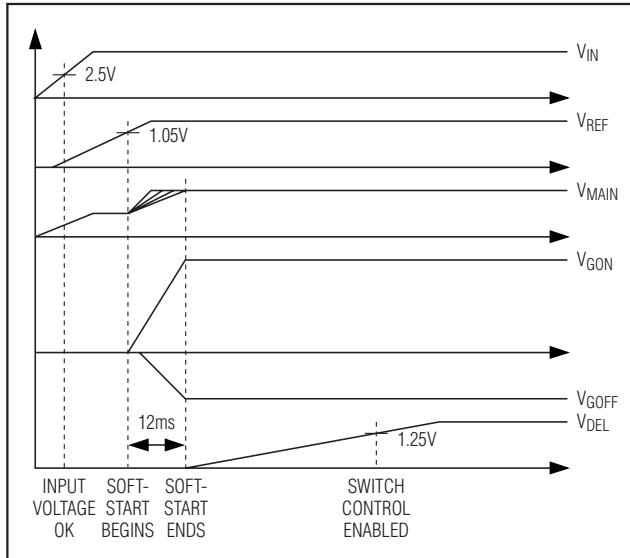

Figure 6. Power-Up Sequence
1.25V (typ), the switch-control block is enabled as shown in Figure 6. After the switch-control block is enabled, COM can be connected to SRC or DRN through the internal p-channel switches, depending upon the state of CTL. Before startup and when IN is less than VUVLO, DEL is internally connected to AGND to discharge CDEL. Select CDEL to set the delay time using the following equation: